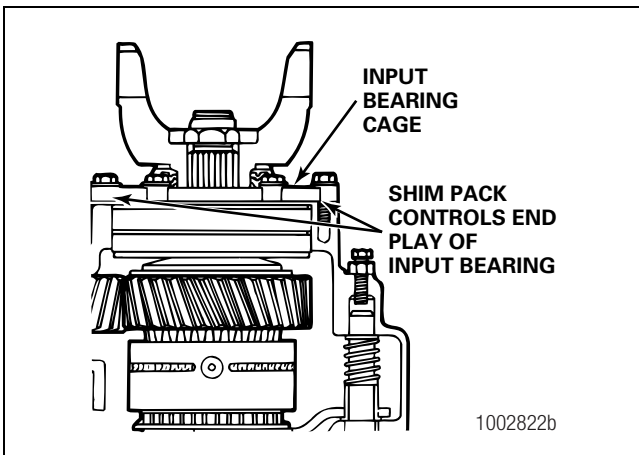

Figure 5.83
3. Add up the four measurements and determine the average gap between the cage and the carrier. Add 0.005-inch (0.130 mm) to the average gap measurement to determine the size of the shim pack between the cage and the carrier. Figure 5.83.